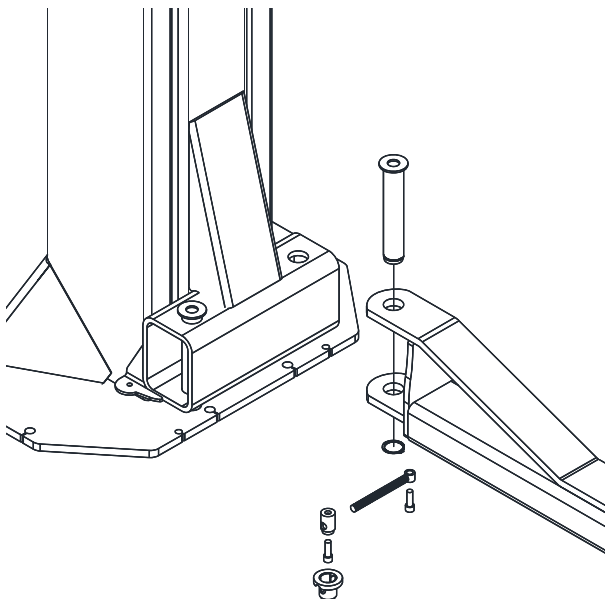

Fig. 15-Arm Installation
- 28) Lubricate the arm pin or carriage arm pin hole with "anti-seize" and install the arms. Insure that the arm restraint gears engage and disengage properly. Arm restraints should disengage when lift is fully lowered (**Fig. 15**).